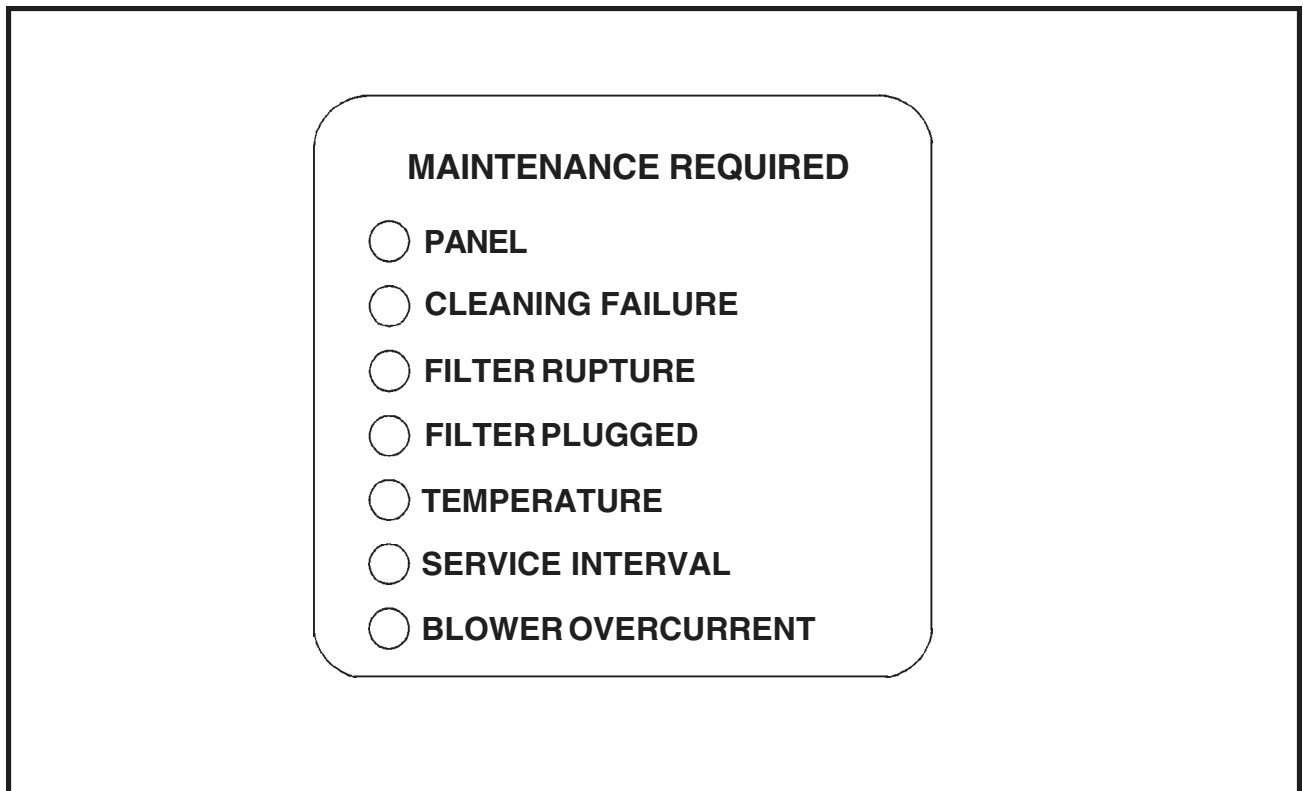

Figure 8
1.2.7 Maintenance Required (Figure 8)
2.5.4 EXT IN (External Input) #1 (See Figure 8 & 14)